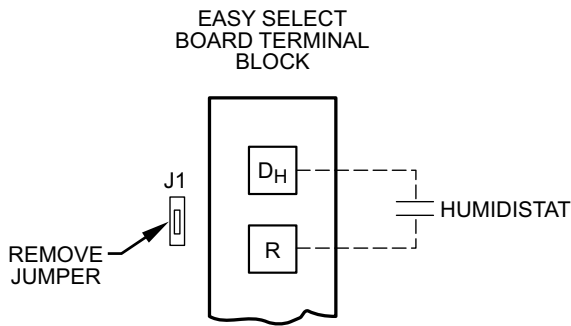

Fig. 23 – Humidistat Wiring for De-Humidify Mode
Easy Select Board terminals HUM1 and HUM2 are provided for direct connection to the low-voltage control of a humidifier through a standard humidistat (see Fig. 22). These terminals are energized with 24VAC when G thermostat signal is present (see Fig. 23). Alternately, the 24VAC signal may be sourced from the W and C terminal block connections when electric heaters are used as primary heating source.
Latent capacities for systems using the Fan Coil are better than average systems. If increased latent capacity is an application requirement, the field wiring terminal block provides connection terminals for use of a standard humidistat. The Fan Coil will detect the humidistat contacts opening on increasing humidity and reduce its airflow to approximately 80% of nominal cooling mode airflow. This reduction will increase the system latent capacity until the humidity falls to a level which causes the humidistat to close its contacts. When the contacts close, the airflow will return to 100% of the selected cooling airflow. To activate this mode, remove Jumper J1 and wire in a standard humidistat (see Fig. 23).
5. Verify low-voltage control signals to motor. The motor receives its control signals through the 12-pin plug (PL-1) on Easy Select Board and 16-pin plug on wiring harness (see Troubleshooting Example). The combinations of pins energized will determine motor speed (see Fig. 23). See Fig. 20 for circuit board, low-voltage screw terminals energized and for voltage present at each pin on 12-pin plug (PL-1). See Fig. 20 for pin number on 16-pin plug which should have voltage when Easy Select Board screw terminals have 24VAC.